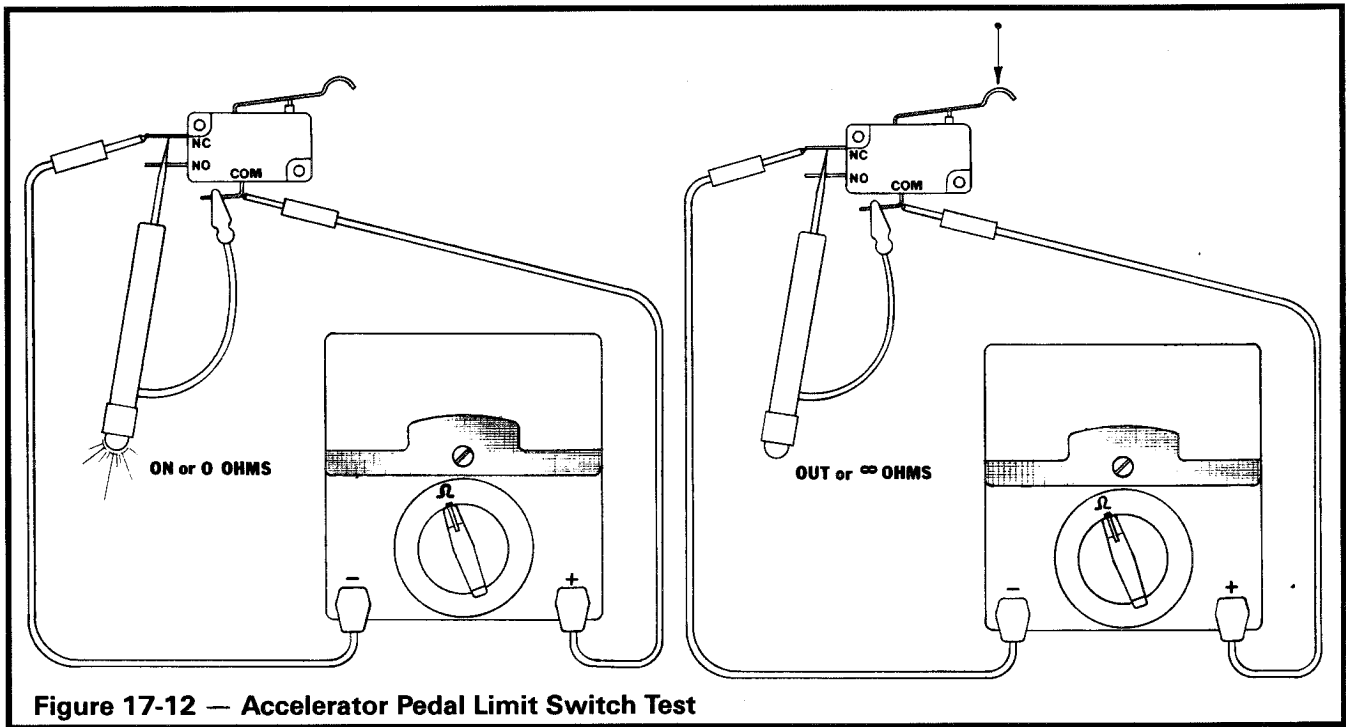

Figure 17-12 — Accelerator Pedal Limit Switch Test
1. Place the black (-) probe on the normally closed (NC) terminal and the red (+) probe on the common (COM) terminal. With the switch lever not depressed the reading should show continuity (Figure 17-12).